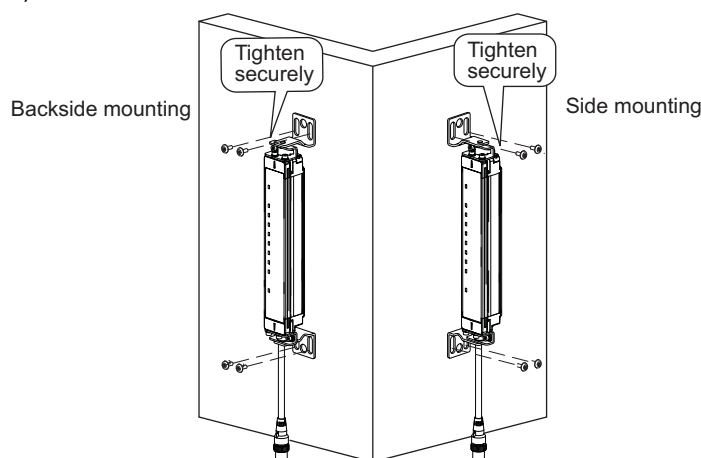

Figure 2
2. Adjust the Top/Bottom Brackets to the mounting position of the wall surface and then tighten them with screws. (Figure 2)